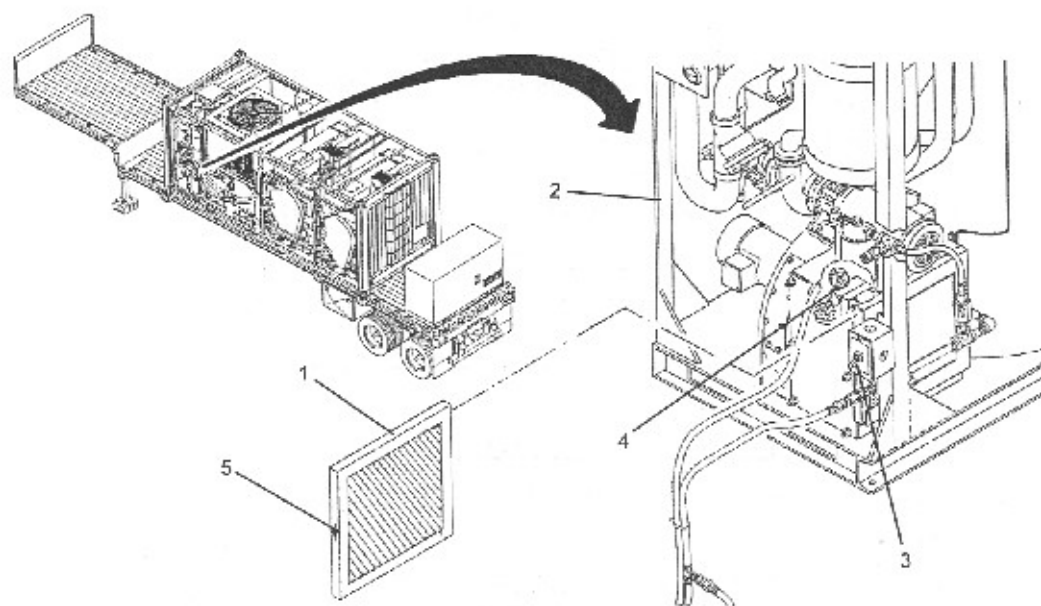

Figure 3-49
- r. Slide air inlet filter back into heater with direction arrow pointing towards heater inlet. (See Figure 3-49)